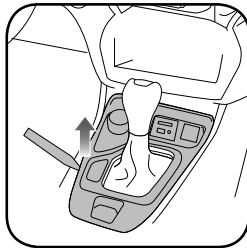

Fig. 2.2
- Using a plastic pry tool, lift and detach the center console cover to expose the media port at the front. (Fig. 2.2)